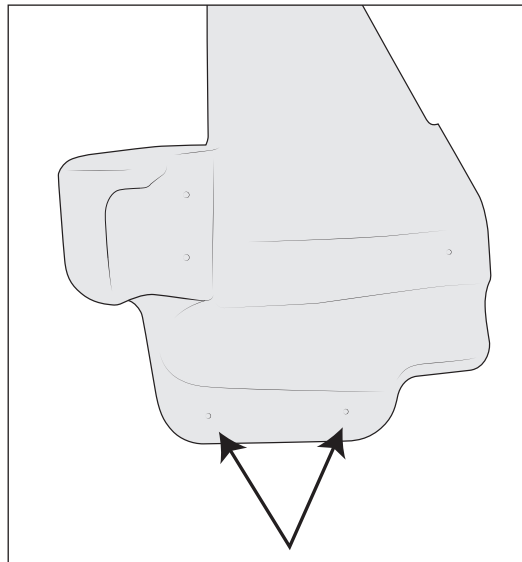

Figure 6
2. Locate the two lower dimples in Flare Extensions. Drill 1/8" pilot holes, then finish holes to 1/4" (fig. 6).